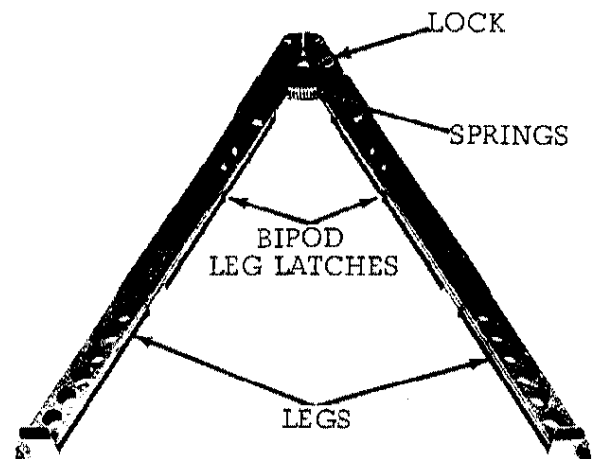

FIGURE 7. BIPOD CONTROLS
a. Spring Control. The clamping action of the bipod (figure 7) is controlled by two springs, one spring mounted inside of the other. The springs are located directly beneath the bipod hinge.
b. Leg Extension Control. Bipod leg extension is controlled by spring latches mounted in the leg extensions. Leg adjustment is accomplished by depressing the latch (figure 7) located on the inner side of each leg and extending the legs to desired height.
c. Bipod Lock. A spring loaded bipod lock (figure 7) is provided to lock the bipod to the weapon or when collapsed to carry in its case.